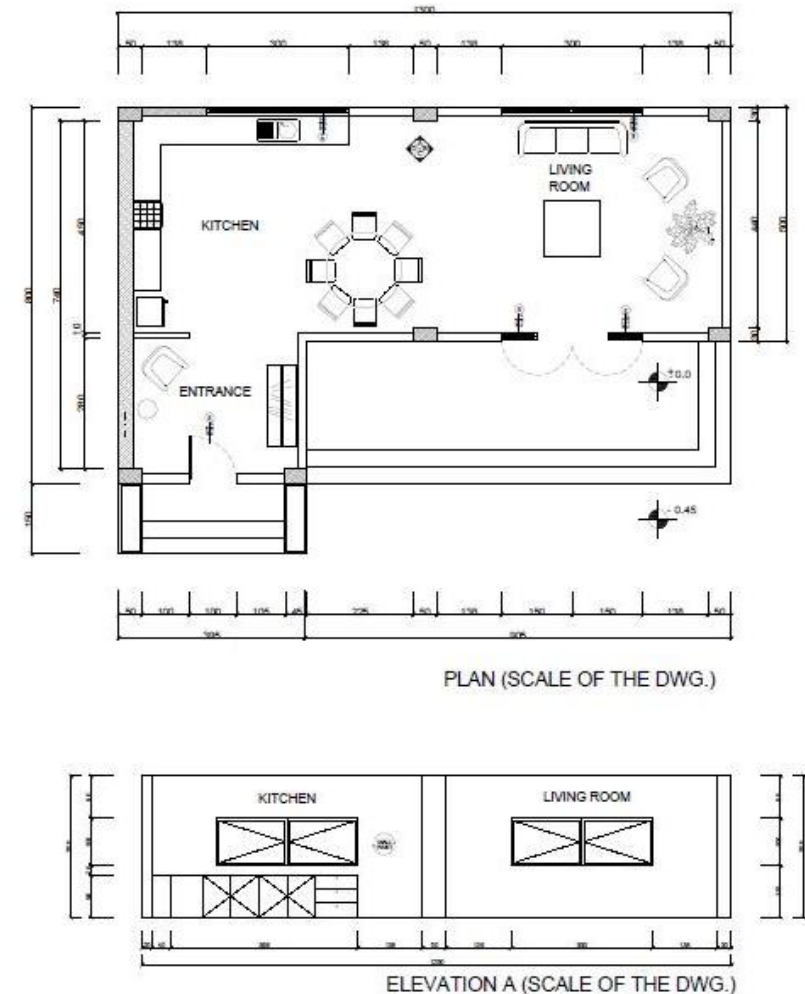

Fig.4.1. Interior Elevation Example
- Draw ground line with thick line. *(See Fig.4.1.)*
- Draw level indicators. *(See Fig.4.1.)*
- Draw furniture. *(See Fig.4.1.)*
- Give dimensions at the bottom of drawing. *(See Fig.4.1.)*
- Hatch special surfaces, in relation to the scale. *(See Fig.4.1.)*
- Indicate material names with material labels. *(See Fig.4.1.)*